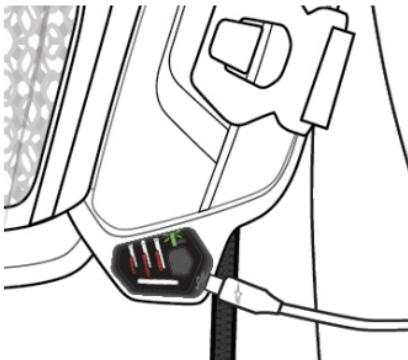

Figure 15: Battery LED (4e) blinking during System recharge (see more LED colour indications in "LED Indications Summary" Section 8)
The Tech-Air® Off-Road System is supplied with a Type C Charging Cable (12). To charge the System, the User must connect the supplied standard Type C USB Charging Cable (12) to the Type C USB Recharge Port (4b) present on the LED Display (4). Once on charge, the LED Display (4) will show different blinking colours in the Battery LED (4e) (Figure 15), according to the description provided in "LED Indications Summary" (see Section 8). Fully charge the System before its first use.